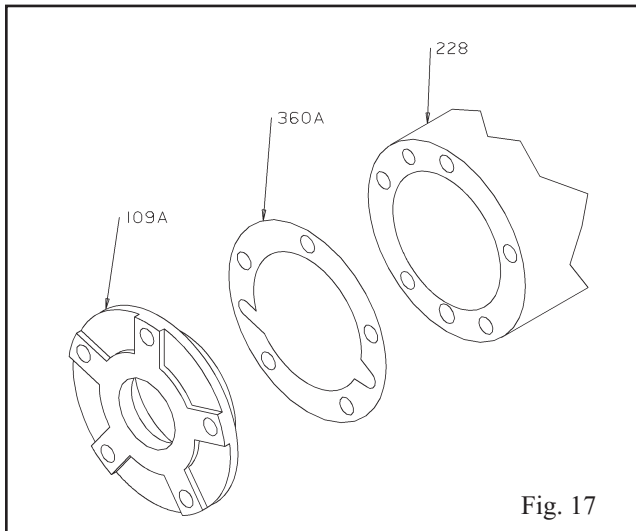

Fig. 17
2. Pry thrust bearing end cover (109A)/INPRO (123A) with O-ring (412, not shown) out of bearing frame (228). SA thrust bearing end cover is sealed to the bearing frame with a gasket (360A) (Fig. 17).